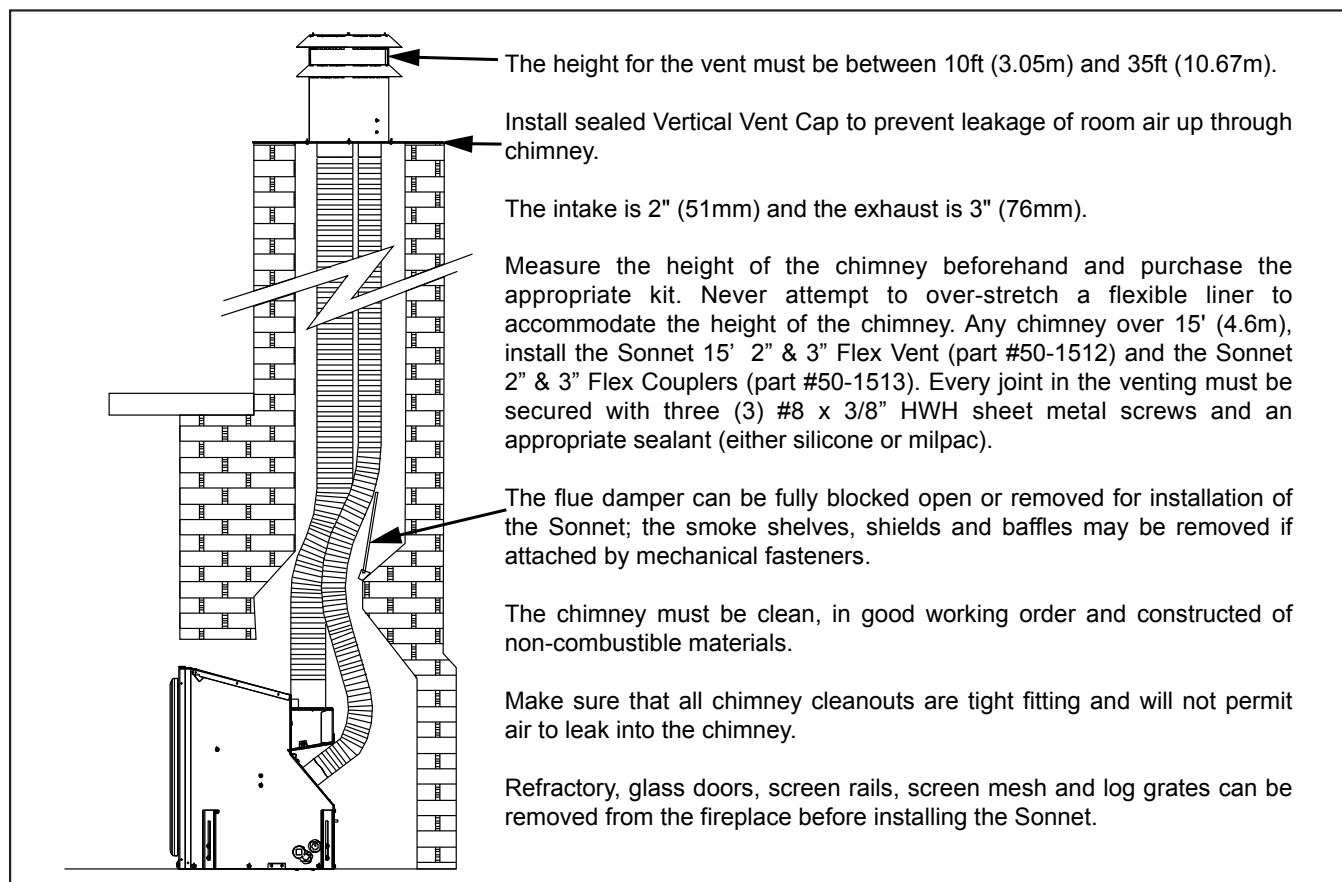

Figure 43: Installation of Sonnet DV .
1. Plan your installation and clearances to combustibles. The Sonnet may be installed and vented into any solid fuel fireplace that has been installed in accordance with the National, Provincial/State and local building codes and has been constructed of non-combustible materials. Also refer to the INITIAL INSTALLATION - PREPARING YOUR SONNET FOR INSTALLATION and CLEARANCES TO COMBUSTIBLES sections. Refer to Figure 43 throughout installation.